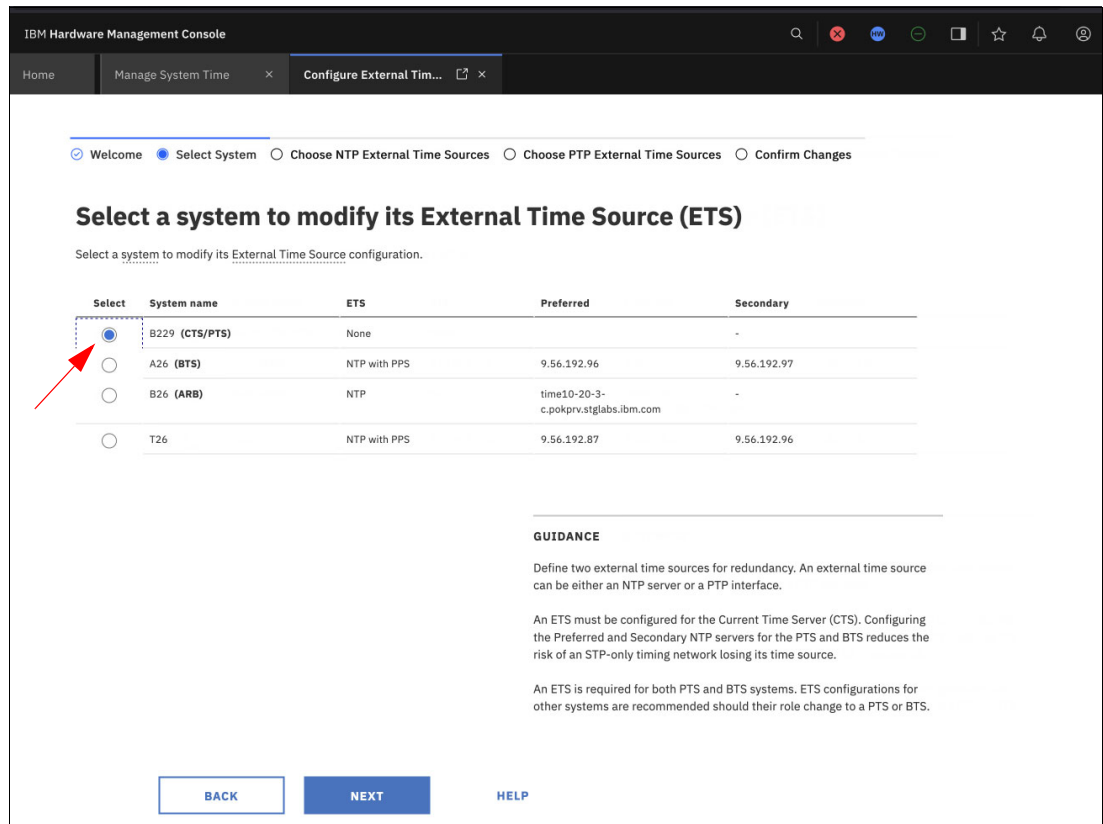

Figure 4-16 Selecting server for ETS configuration
2. Choose the target server for the configuration and click **NEXT**. In the example, B229 (an IBM z17 server) is selected. (Figure 4-16 on page 76).